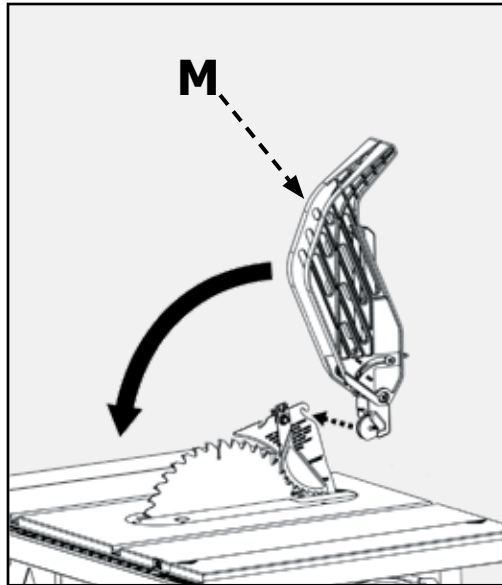

FIGURE 20
1. While holding the blade guard assembly (A) in a vertical position, hook the locating pin (B) at the back end of the blade guard assembly into the slot at the back edge of the riving knife.
2. Rotate the blade guard assembly toward the front of the saw until the metal portion (C) of the blade guard assembly is parallel to the table as shown in Figure 20.
3. While holding down on the front of the metal portion of the guard (C) press the blade guard lock lever (D) down until it snaps into the locked position. Check to make sure the guard is locked onto the riving knife by pulling on the guard. If the guard is not locked, the blade guard lock lever will flip up to the unlocked position.